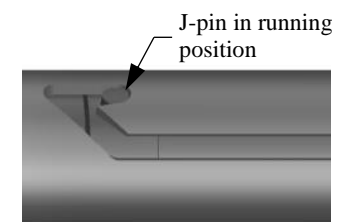

Fig. 7
L-2.18) Move J-body (20) and drag block body assembly as needed to position J-pin in running position in J-slot (Fig. 7).